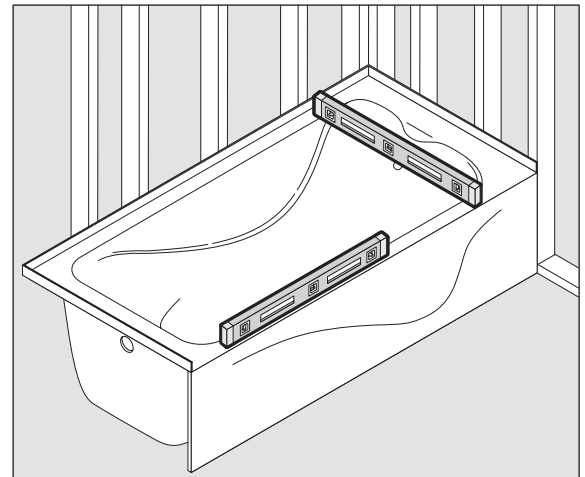

FIGURE 1. Check to assure tub is level.
- Trial fit tub in prepared alcove. With tub sitting flat on floor, check with level on top of tub. Tub should be level from front-to-back and side-to-side (Fig 1).